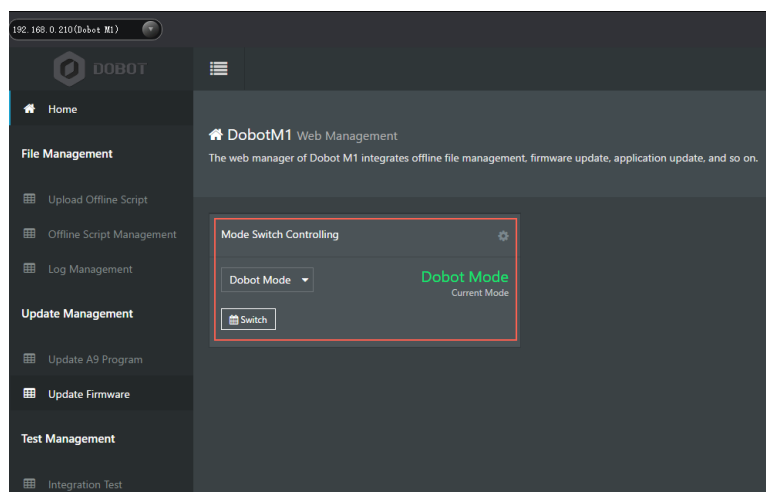

Figure 5.19 Status of Dobot M1
- M1Studio can be connected to Dobot M1 only when the Dobot M1 is in the Dobot Mode. You can check the current mode of Dobot M1 on the **Tools > Web Management** page, as shown in Figure 5.19. For details, please see *6.9 Operating Web Management*.